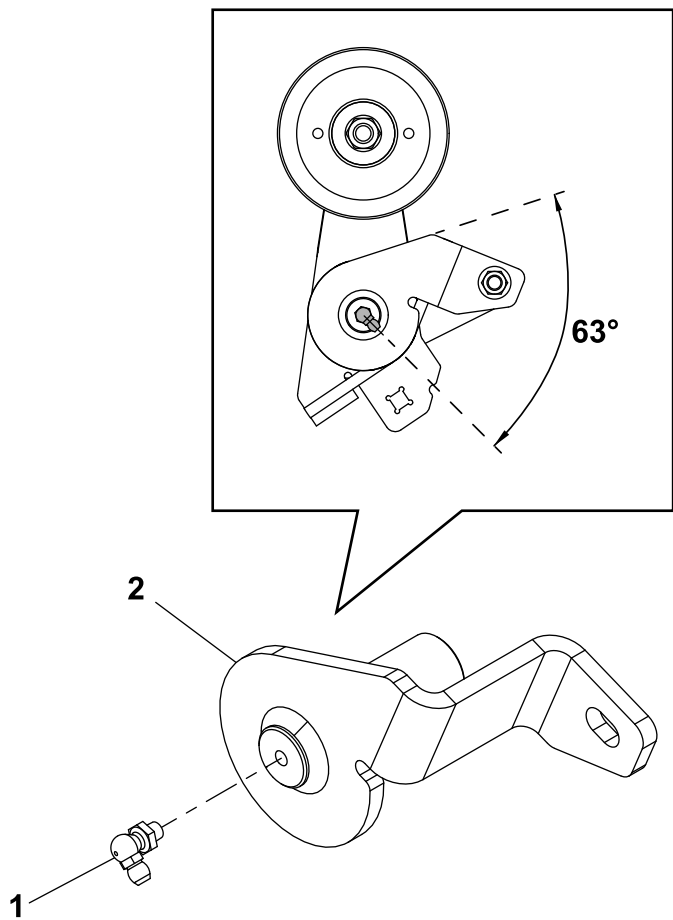

Figure 5
2. Install the grease fitting into the idler support as shown in Figure 5.